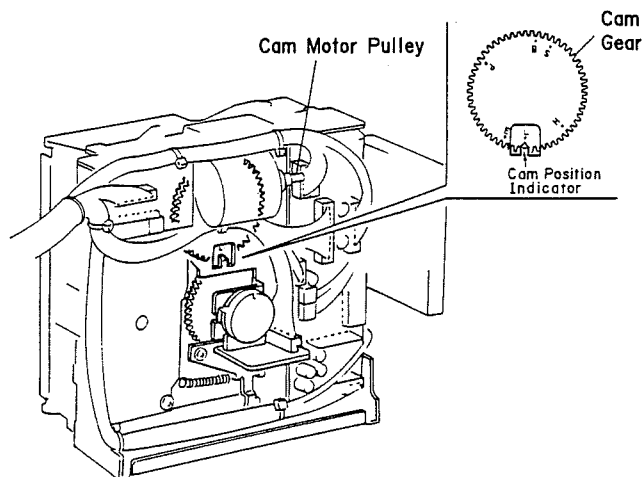

Fig. 6.14 Cam Gear Positioning by hand
4. Turn the Cam Motor Pulley by hand to position the Cam Gear to "H (Half Load)". See Fig. 6.14. (In the Half Load position, the guide rollers T3, T1, S1 and S3 are arranged in one line as shown in Fig. 6.16.)
2. Turn the Cam Motor Pulley by hand to position the Cam Gear to "L (Load)". (See Fig. 6.14.)